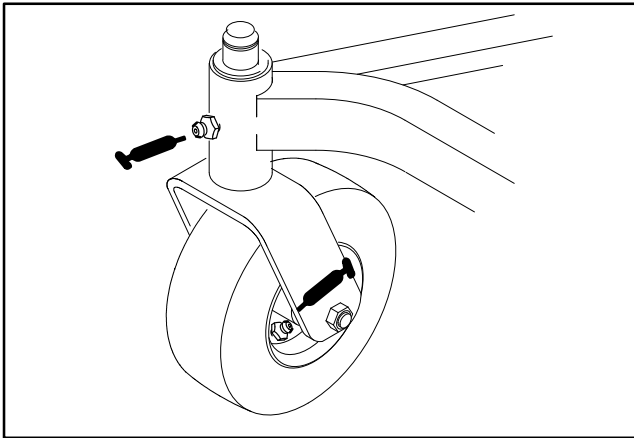
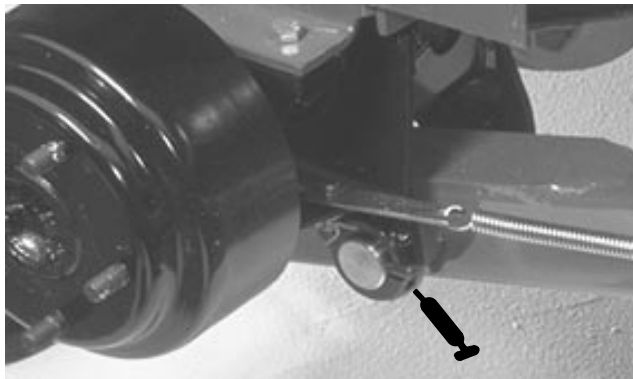
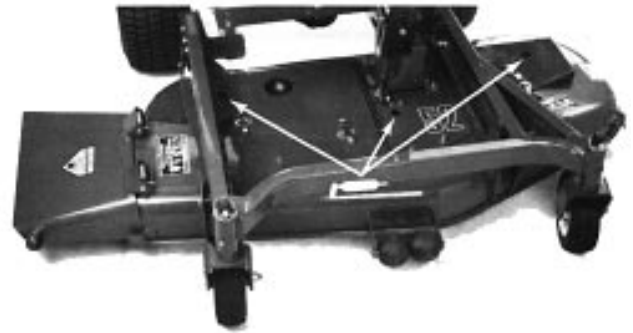

Figure 18
Figure 19
Figure 20
1. The cutting unit lubrication points are: castor spindle bushings (Fig. 18), castor wheel bearings (Fig. 18), right and left lift arm pivot pins (Fig. 19) and blade spindle bearings (Fig. 20).